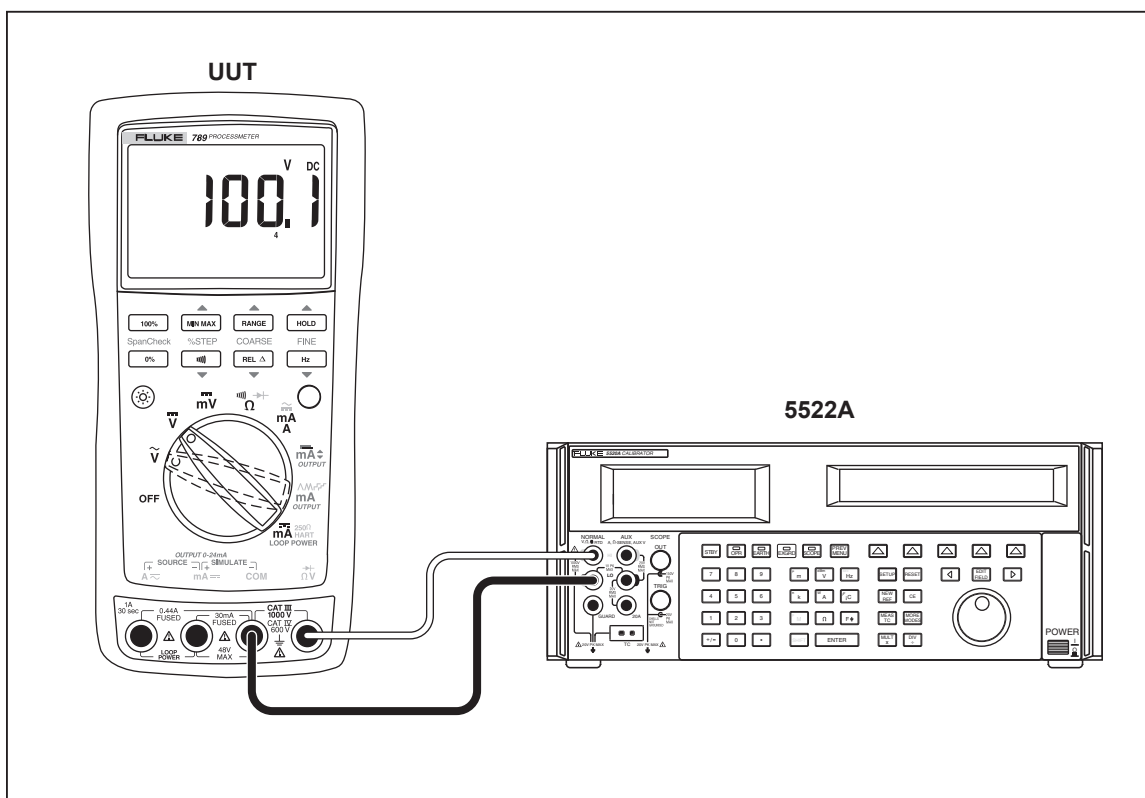

Figure 9. AC/DC Voltage Measurement Test Connections
3. Connect the calibrator to the **COM** and $\overline{V}$ terminals on the UUT as shown in Figure 9.
3. Connect the calibrator to the **COM** and ΩV terminals on the UUT as shown in Figure 9.